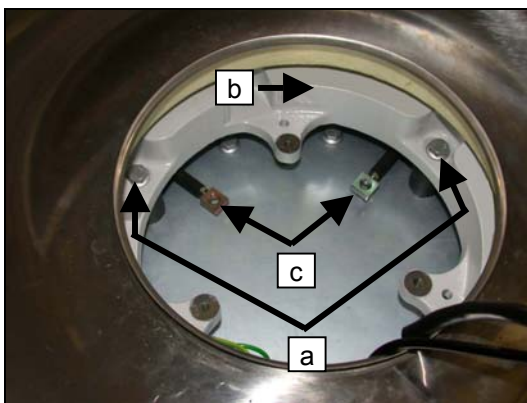

Fig. 12
- Undo the fastening screws (Fig. 12, a) of the rubber-metal bearings on the motor supporting ring.
- Push the motor supporting ring (Fig. 12, b) to the side. Remove one rubber-metal bearing after the other and replace them.
- Place something under the centrifuge so that you can access the screws of the vibration dampers (Fig. 12, c) under the centrifuge.
- Remove the vibration dampers (Fig. 12, c).